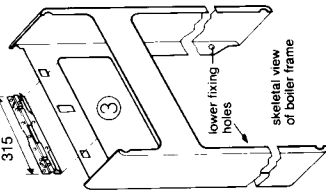

Fig. 14
Refer to figures 14 - 18
Hang the boiler on the bracket. Adjust the boiler sideways to its correct position. Measure carefully from the actual face of the outside wall to the centre of the flue bend. (Dimension X on Figs 14 & 15). Locate the small maintenance clip onto the flue elbow (fig 14) and assemble onto the flue outlet on the top of the boiler. Twist the flue bend to the outlet direction required, and tighten the maintenance clip to secure the flue bend in place. Carefully level across to check that the hole through the wall is at the same level as the flue bend.
- 5.5.27** Referring to fig 14 assemble a small maintenance clip on the outlet of the boiler flue bend. Push the inner flue tube into clip and tighten clip screws.
- 5.5.29** Referring to fig 14 fit the large maintenance clip into position and tighten clip screws.
- 5.5.39** Referring to fig 14 fit the large maintenance clip into position and secure clip screws.
- 5.5.16** Referring to fig 14 fit the large maintenance clips into position and secure the clip screws.